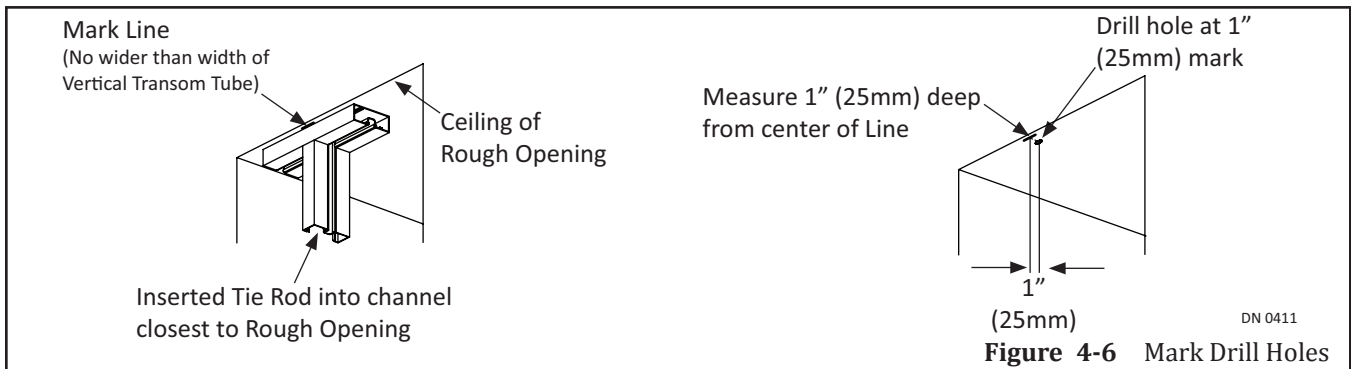

Figure 4-6 Mark Drill Holes
4. Go to the top of each Vertical Transom. Mark the exact location by drawing a horizontal line onto the ceiling of the rough opening. Please see Figure 4-6.